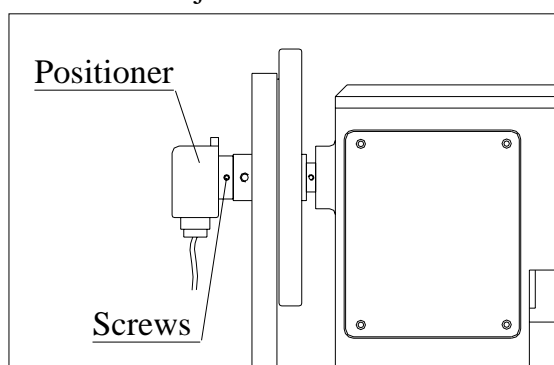

Fig.11
4.4 Adjustment of stopping position (Fig.11)